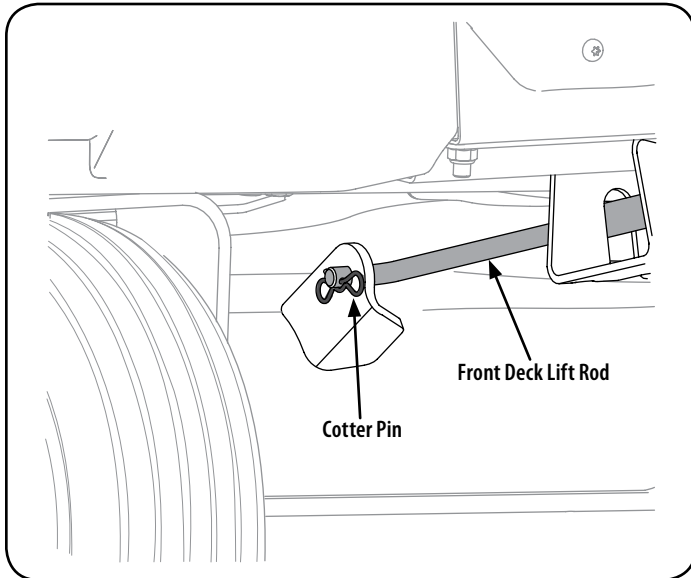

Figure 27
6. Pull the cotter pin out of the front deck lift rod securing it to the deck. See Figure 27. Slide the deck lift rod out of the front hanger bracket.
6. Reinstall the front deck lift rod and secure in place with the cotter pin. Refer to Figure 27.